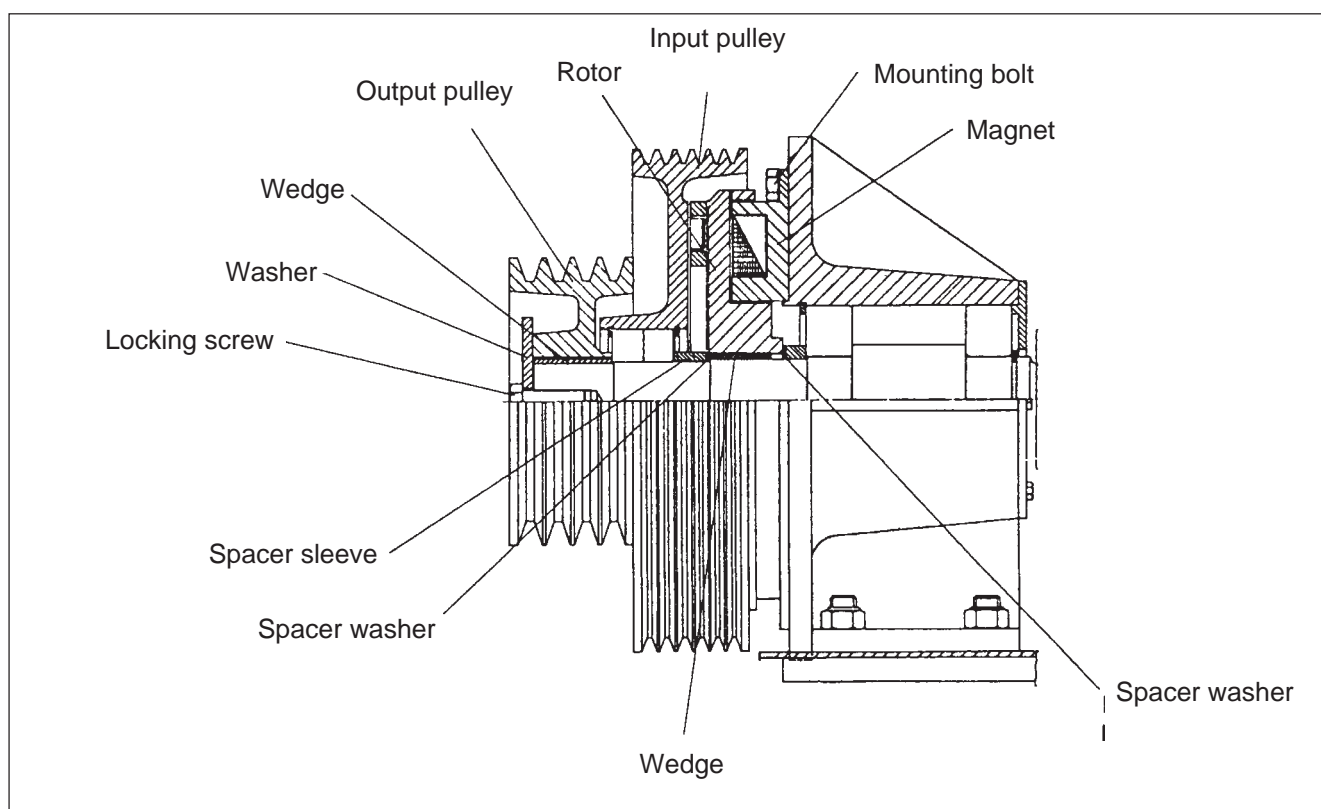

Figure 17. Gear housing and magnetic clutch
1. Remove the locking screw and washer in the centre of the shaft (Fig. 17).